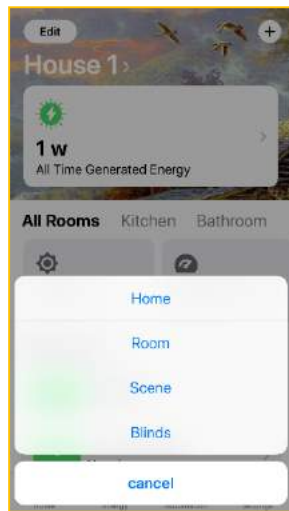

Figure 44
10.10.2. Select **Scene** from the menu options (Fig. 44).